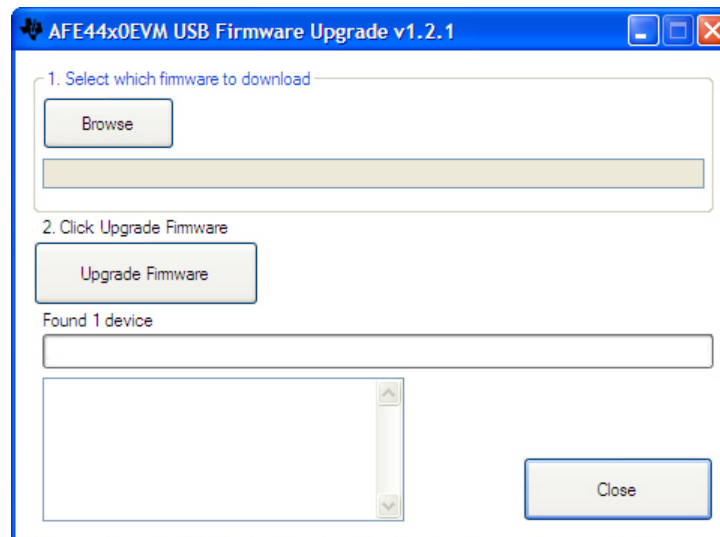

Figure 34. PC Application Firmware Upgrade – 3
- Browse and select the appropriate firmware binary file (example: AFE4403_EVM_FW_V2.1.txt file) and click *Upgrade Firmware* as shown in Figure 34. The default firmware is available from: